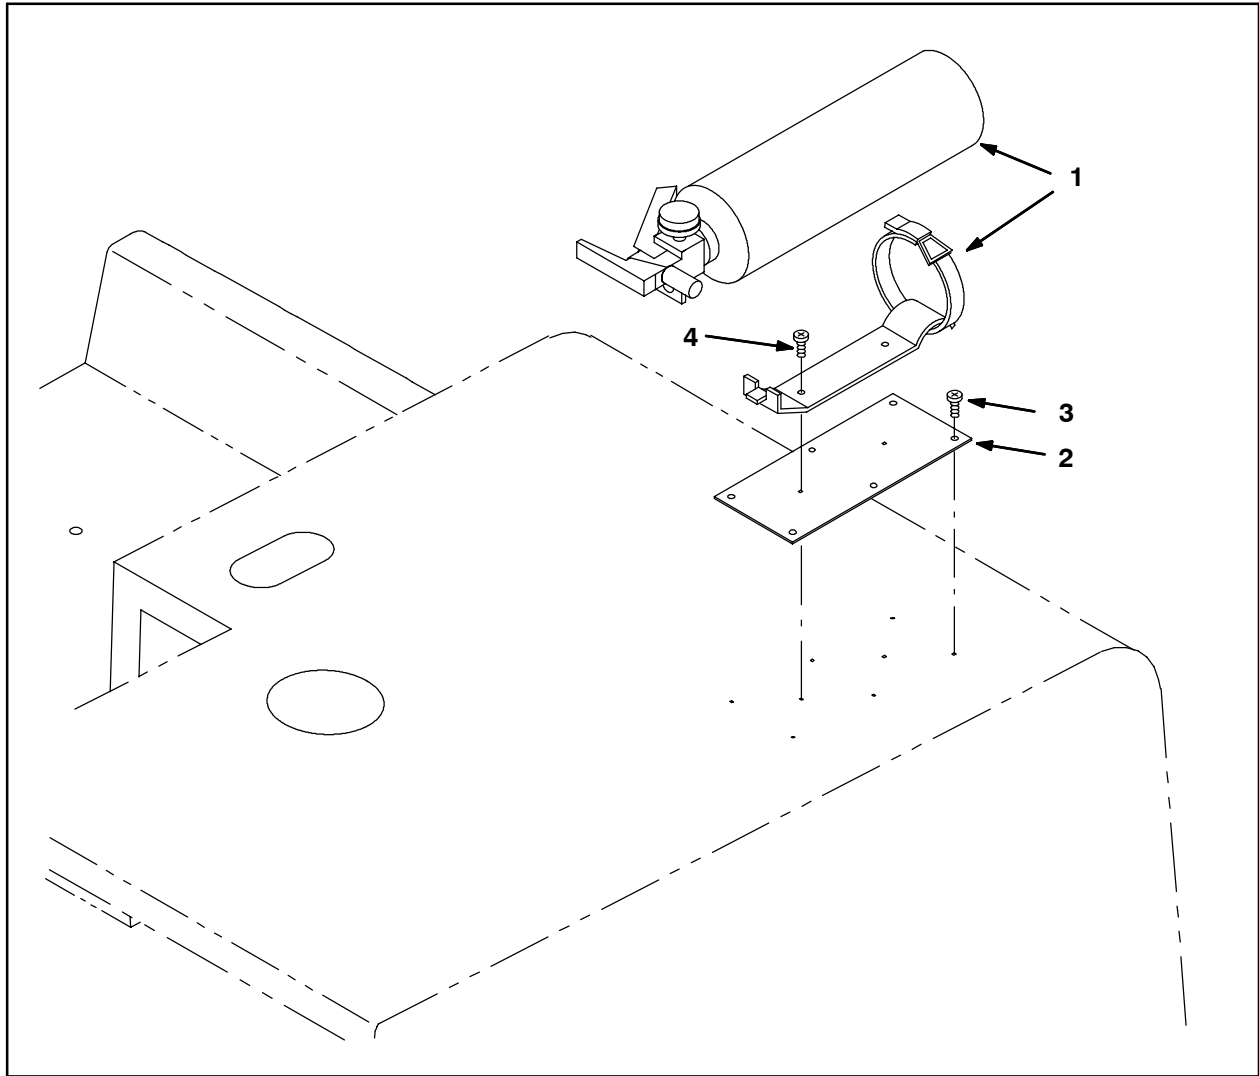

FIG. 1
1. Use the fire extinguisher mounting plate (2) as a template and drill eight 0.125" holes into the main cover. Refer to Fig. 1 for an approximate location for the mounting plate.
2. Use six pan screws (3) to install the fire extinguisher mounting plate (1) on to the main cover. Refer to Fig. 1.
3. Remove the bracket from the fire extinguisher (1). Refer to Fig. 1.
4. Use two pan screws (4) to install the fire extinguisher bracket on to the fire extinguisher mounting plate (2) / main cover. Refer to Fig. 1.
5. Place the fire extinguisher (1) into the fire extinguisher bracket and secure the extinguisher in the bracket. Refer to Fig. 1.